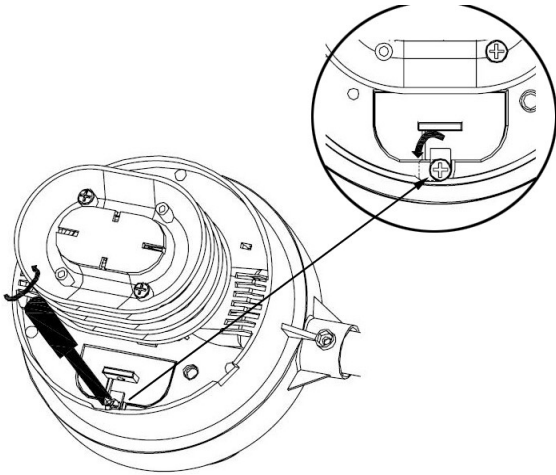

Figure1
1. Turn the screwdriver counter clockwise to loosen the screw, turn aside the sheet metal (Figure 1)